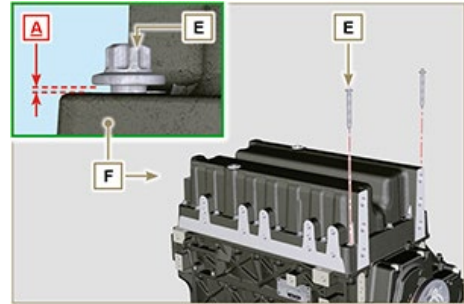

Fig. 11.76
10. Loosen capscrews **A** and remove housing or plate **L** (**Fig. 11.76**).